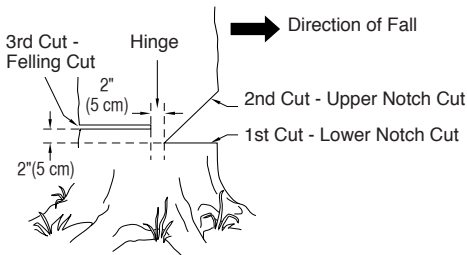

Figure 10 - Felling A Tree
A properly placed felling notch will determine direction tree will fall. Place felling notch on side of tree in direction you want tree to fall (see Figure 10). Follow directions below to create a felling notch.
1. Make lower notch cut as close to ground as possible. Hold saw so guide bar is horizontal. Cut 1/3 the diameter of tree trunk (see Figure 10). **Note:** Always make this horizontal lower notch cut first. If you make this cut second, tree can pinch chain or guide bar.
Example: If lower notch cut is eight inches deep, start upper notch cut eight inches above it. Cut downward at 45° angle. The upper notch cut should meet end of lower notch cut (see Figure 10).
1. Make felling cut two inches higher than lower notch cut and on opposite side of tree (see Figure 10). Keep felling cut parallel to lower notch cut.
⚠ WARNING: Do not cut all the way through tree. Leave about two inches of tree diameter uncut directly behind felling notch (see Figure 10). This uncut portion acts as a hinge. The hinge helps keep tree from twisting and falling in wrong direction.